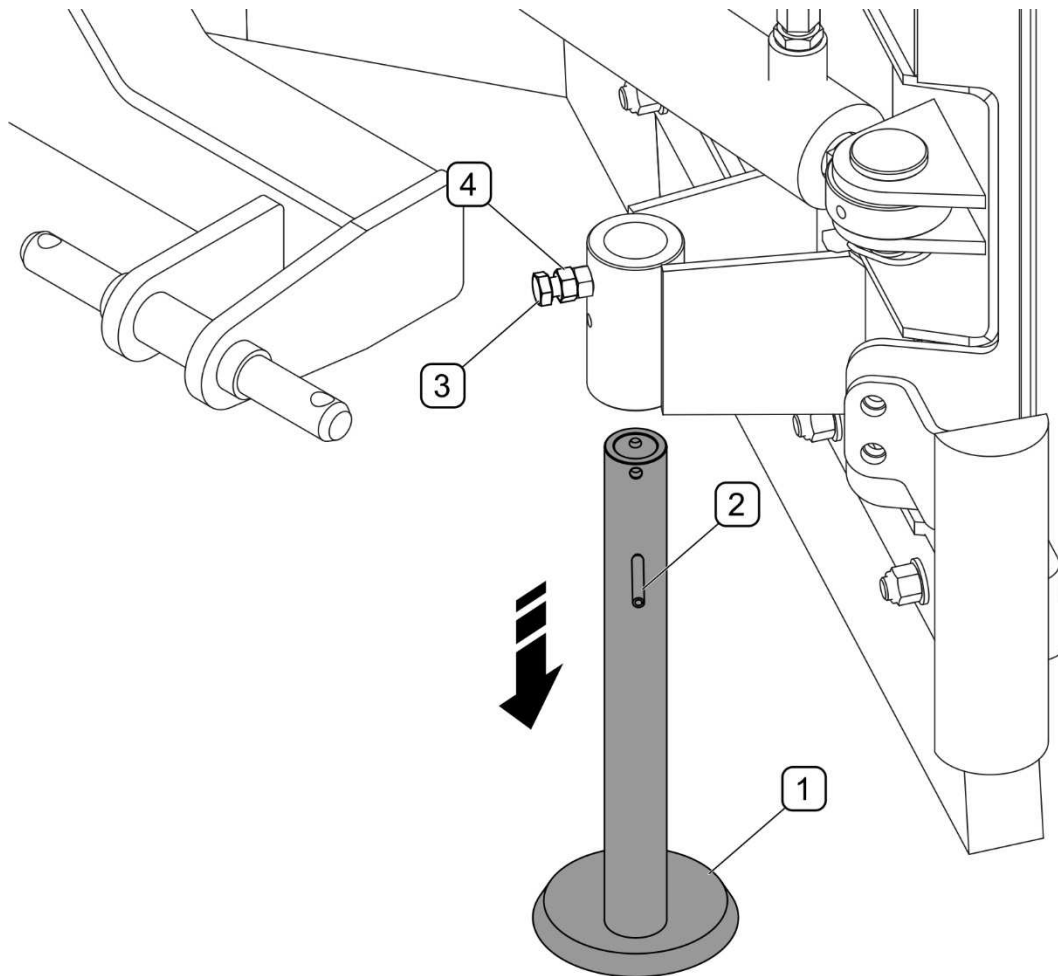

FIGURE 5.2 Slide replacement
(1)-slide; (2)- spring pin; (3)- bolt; (4)- nut
Excessively worn or damaged slides must be replaced (FIGURE 5.2). In order to do this raise the plough and support with sufficiently stable and strong supports. If the snowplough is hitched and raised on the front three-point linkage, protect it from falling and immobilise the tractor (turn off the engine and engage the parking brake.) Loosen nut (4) and bolt (3) and take out spring pin (2) and then remove slide (1) from guide. Check the slide and other elements for damage or excessive wear. The list of slide working components including catalogue numbers is shown in TABLE 5.2.